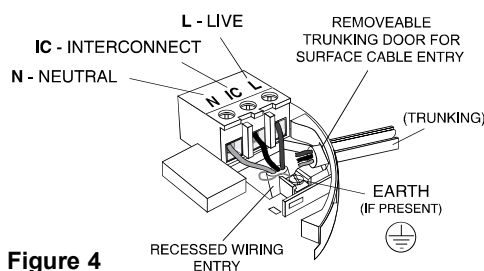

Figure 4
To interconnect the Alarms connect all the IC terminals together as shown in **Figure 4** (see "Interconnecting Alarms" section on page 16).
4. If the mains wires are recessed, bring the wires through the rear hole in the mounting plate as shown in **Figure 4**.
(a) position the mounting plate so the cable trunking is as shown in **Figure 4**.